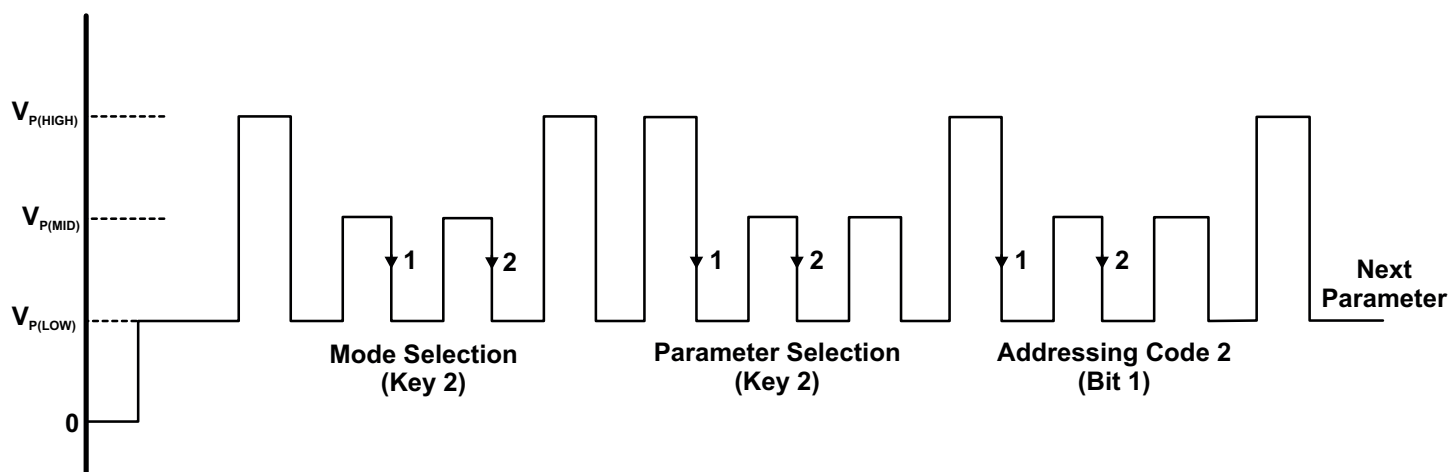

Figure 11: Example of Try Mode Programming Pulses Applied to the VOUT Pin.
After powering the V_{CC} supply, select mode key 1, the desired parameter register, and address its bit field. When addressing the bit field, each V_{PM} pulse increments the value of the parameter register up to the maximum possible code (see Programming Logic section). The addressed parameter value will be stored in the device even after the programming drive voltage is removed from the VOUT pin, allowing its value to be measured. To test an additional programmable parameter in conjunction with the original, enter an additional V_{PH} pulse on the VOUT pin to re-enter the parameter selection field. Select a different parameter register, and address its bit field without any supply interruptions. Both parameter values will be stored and can be measured after removing the programming drive voltage. Multiple programming combinations can be tested to achieve optimal application accuracy. See Figure 11 for an example of the Try Mode pulse train.